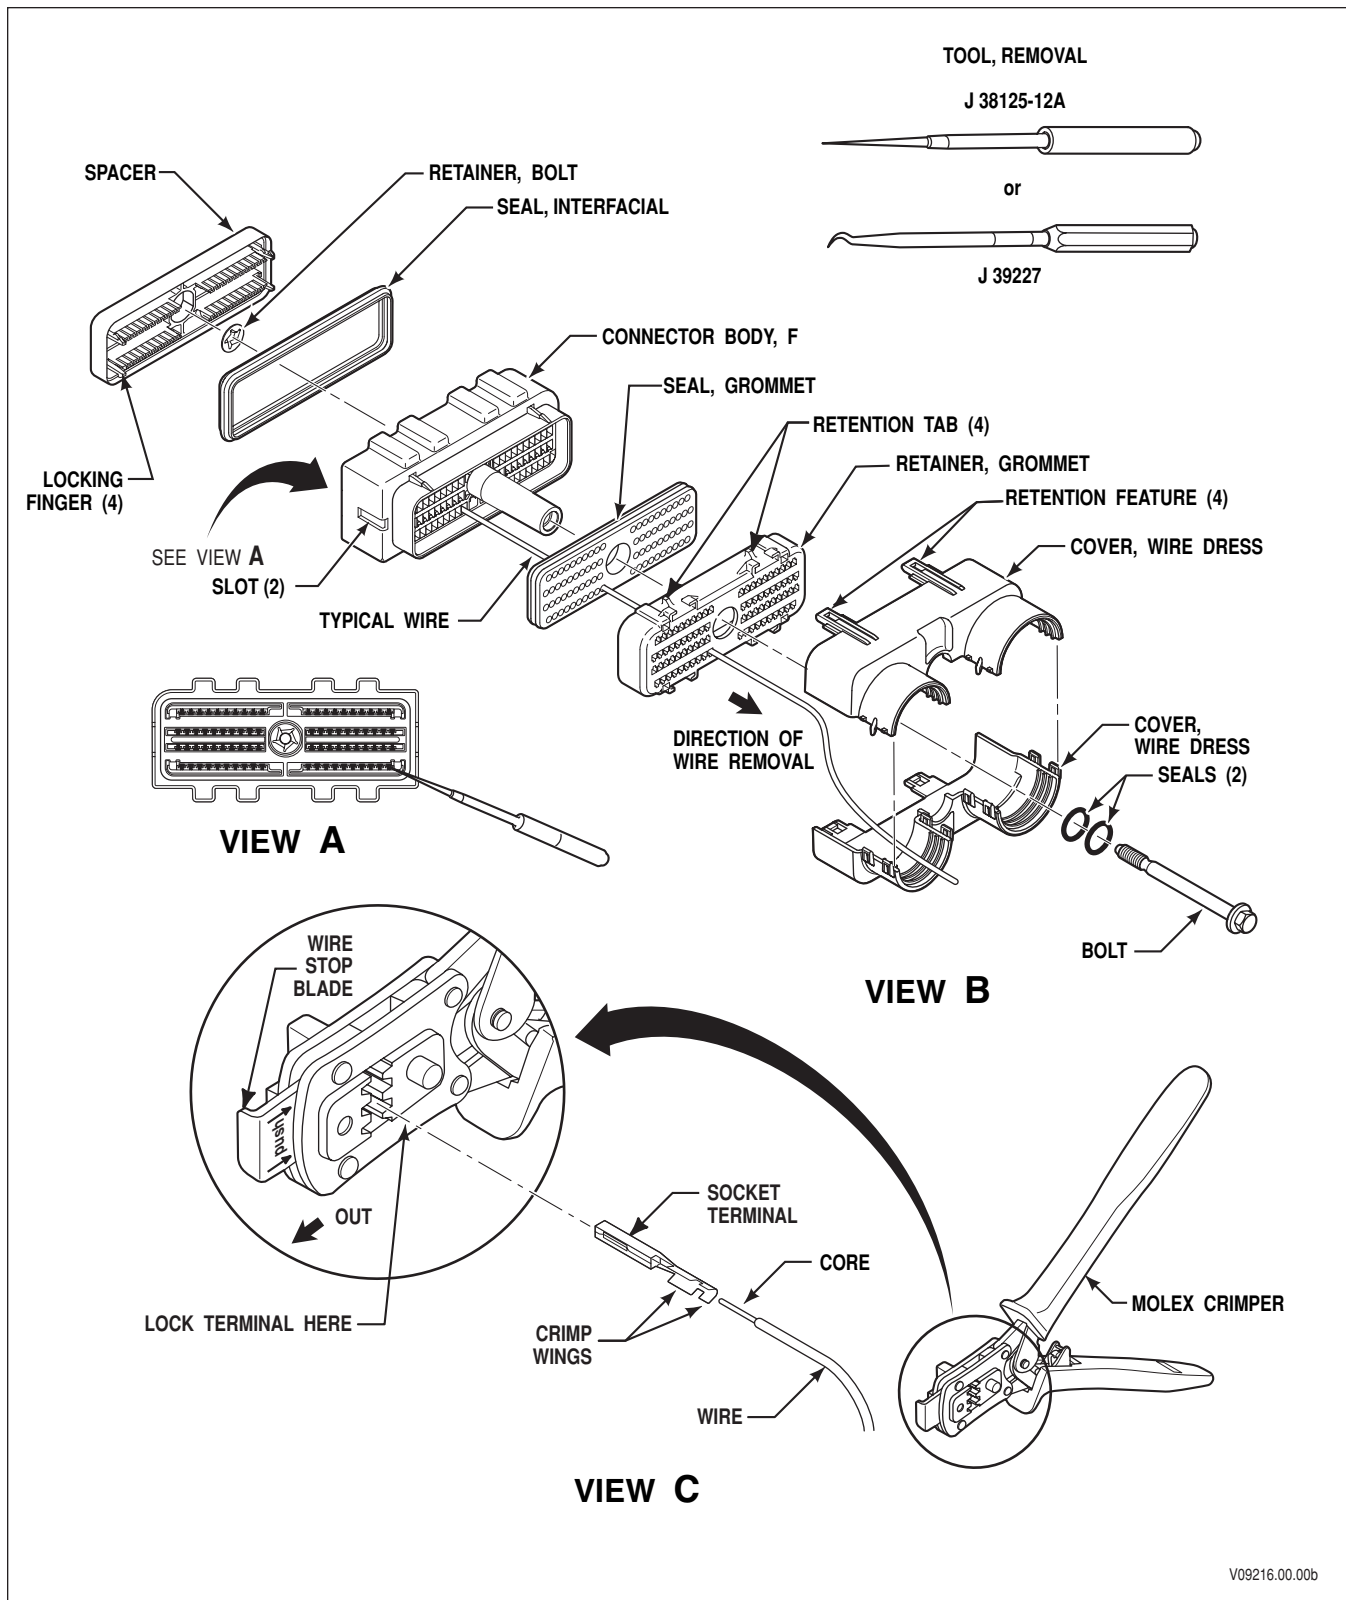

Figure E-1A. AFL 80F Bolt-Assist TCM Connector
6. Insert metal blade of J 38125-12A or J 39227 removal tool into front of connector body at desired terminal/wire lead cavity location (See Figures E-1A through E-1C).